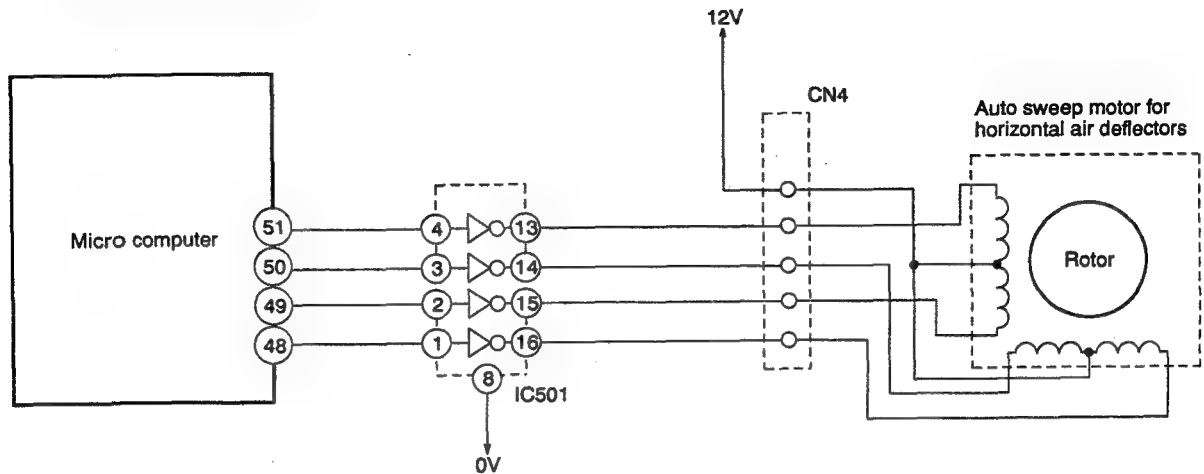

Fig. 4-1 Auto Sweep Motor Circuit (Horizontal air deflectors)
- Fig. 4-1 shows the Auto sweep motor drive circuit; the signals shown in Fig. 4-2 are output from pins ④⑧ – ⑤① of the micro computer.